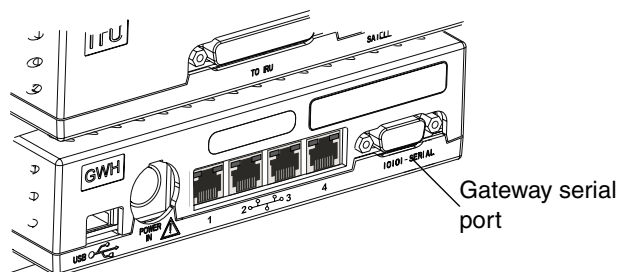

Figure 71: Location of Gateway serial port
2. Attach the other end of the cable to the Gateway serial port (see Figure 71).